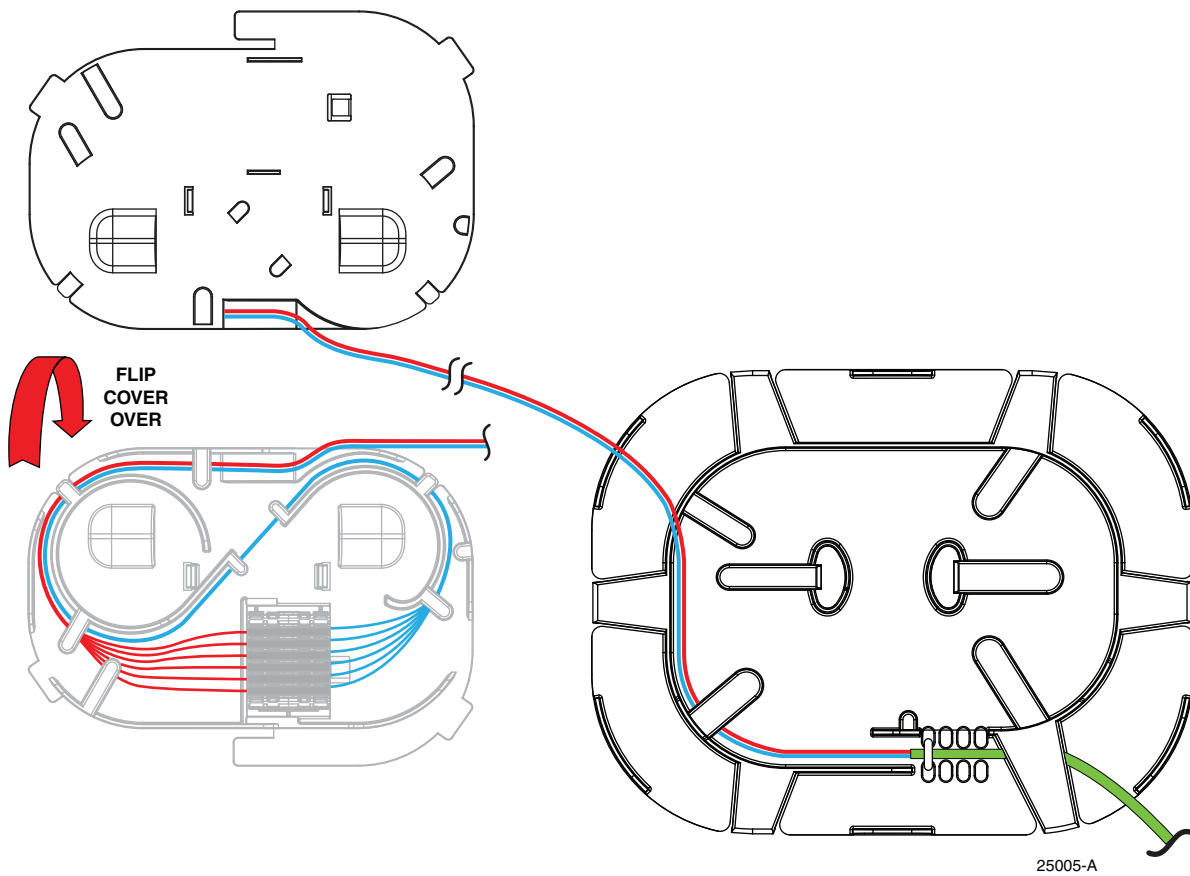

Figure 30. Flipping the Cover Over
4. Flip the tray over in a half circle with the pivot point on the top edge of the tray, where the fibers are, as shown in Figure 30.